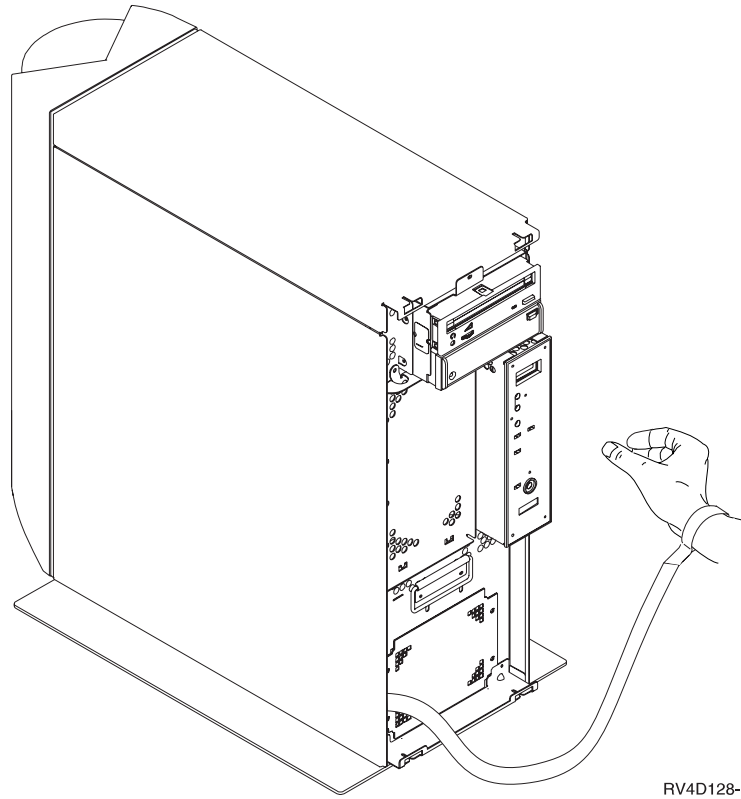

Figure 8. Attach Wrist Strap
- 7. Attach the disposable wrist strap to prevent electrostatic discharge from damaging a device. Figure 8 on page 11 shows an example of where to attach the adhesive part of the foil to an unpainted surface.